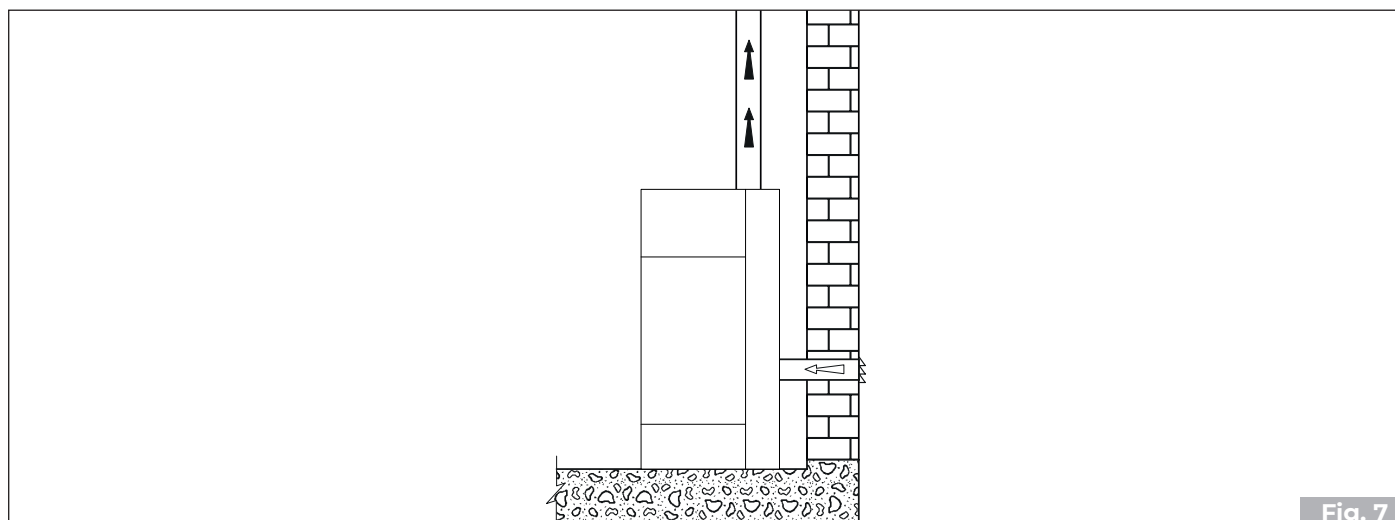

Fig. 7
- it can come directly from outside with direct connection to the combustion chamber (**Fig. 7**).
- to connect the combustion air inlet of the appliance to the air intake using a special pipe (**Fig. 7**).